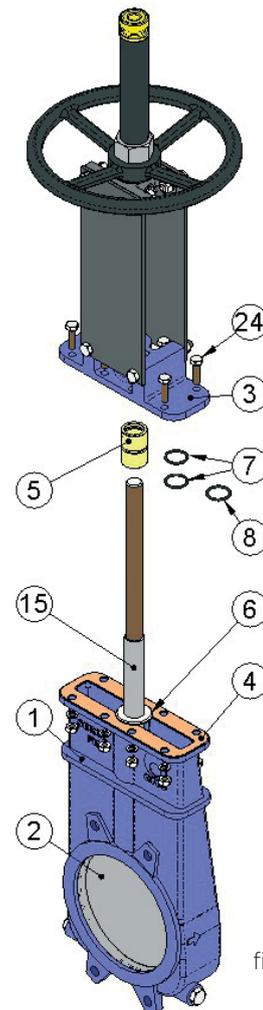

fig. 7
6. Remove the closing bushing (5), along with the respective O-rings (7 and 8).
7. Replace the O-rings (7 and 8) and the closing bushing (5).
8. Before starting to assemble, we recommend applying petroleum jelly to the bushing (5) to facilitate the assembly and subsequent operation of the valve (do not use oil or grease); Table 4 (as mentioned above) shows the characteristics of the Vaseline used by CMO.
10. Position the closing bushing (5) with the O-rings (7 and 8) and the stopper washer (6) in the original position.
11. Make sure the seat sealing joint (4) between the cover (3) and the body (1) is not damaged (if it is, replace it).
12. Carefully tighten the screws (24) of the cover (3) crosswise.
15. Subject the valve to pressure in the line, checking that there are no leaks between the cover (3) and body (1), or between the rod (15) and the cover (3).
***Note:** The numbers in brackets refer to fig. 7.